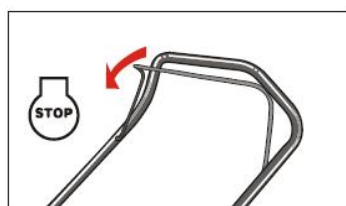

Fig. 13
1. Release the brake lever to stop the engine and blade. (Fig. 13)